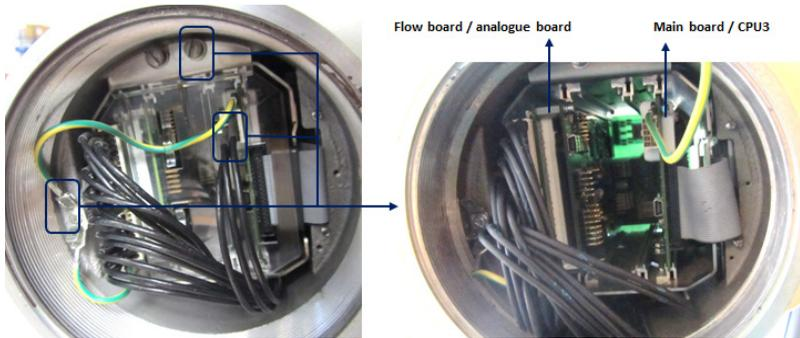

Fig. 3: Removing seal bracket
5. Remove seal bracket, by the bolt on top and disconnecting the grounding wire of the main board and IS cables on the main board (⇒ Fig. 3).